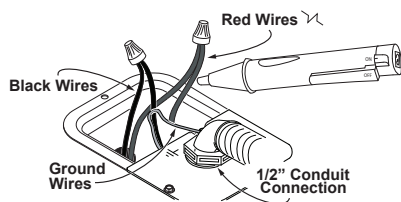

Figure 38 - Non-Contact Circuit Tester
4 Remove the anode cap on top of the heater and remove just enough insulation so you can access the anode head (Figure 38). Keep in a safe place for reinstallation later.
- At least annually, inspect the T&P Relief Valve and discharge pipe for damage caused by corrosive water conditions and mineral deposits. Operate the T&P Relief Valve manually to ensure the waterways are clear and the valve mechanism moves freely (see Figure 38). Before operating the valve manually, check that it will discharge in a place for secure disposal.